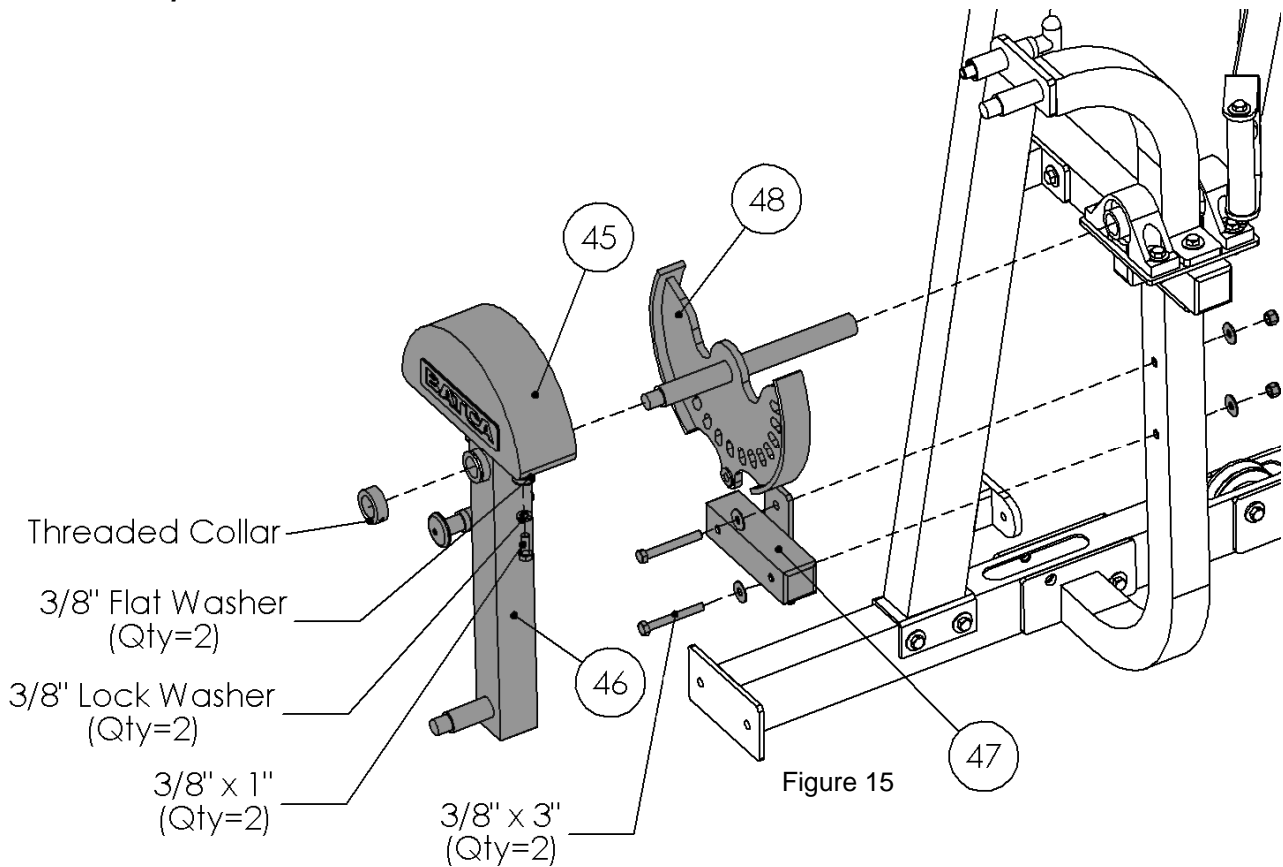
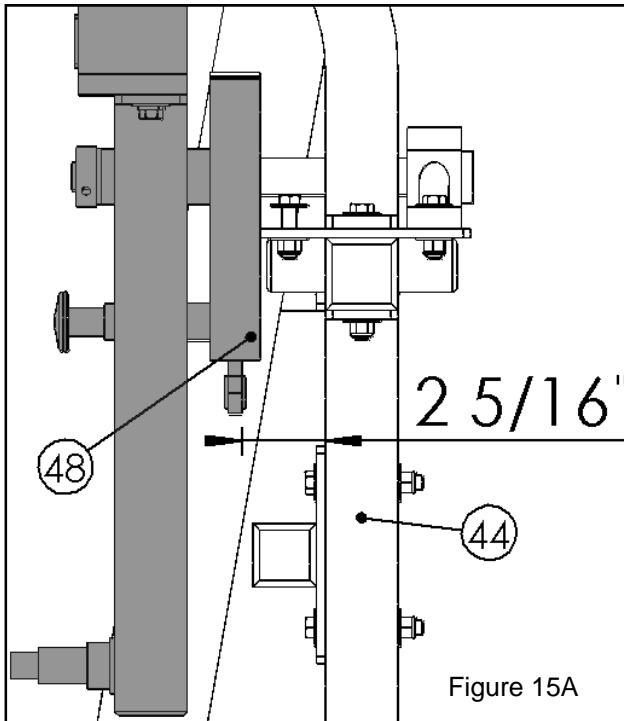

Figure 15
Figure 15A
Note: It is very important that the threaded shaft of the Leg Ext/Curl Cam (48) be lined up parallel to the Back Base. It is also very important that the inside face of the Leg Ext/Curl Cam (48) [the side facing away from you in Fig 15] is 2 5/16" from the face of the Elbow Support as seen in Figure 15A. This will allow the cable to wrap on the Leg Ext/Curl Cam (48) evenly during the exercise and provide the best performance.